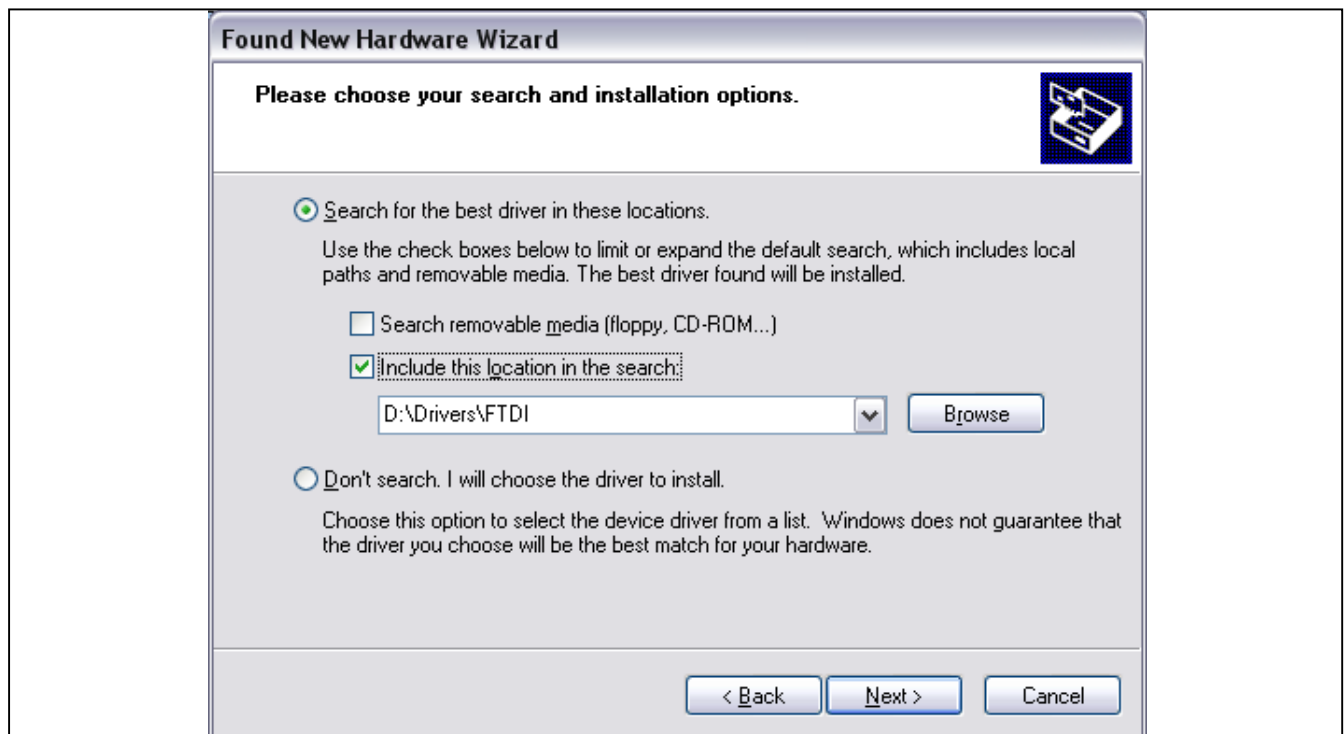

Figure 6. Selecting Driver File Location for Installation
- Finally, in the search and installation options dialog (Figure 6), select **Search for the best driver in these locations**, and enter the location of the working directory containing the unzipped VCP driver files. Click **Next** to finish installing the driver.